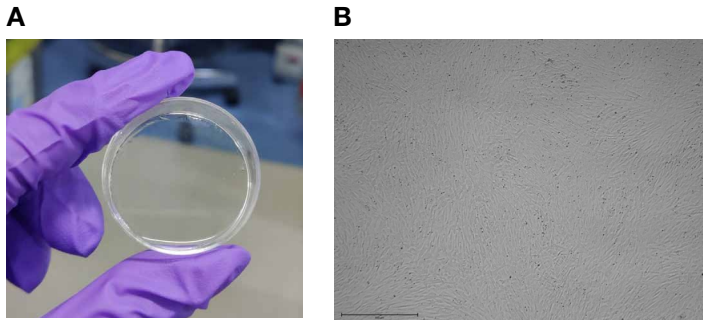

Figure 2. Growing the cells. (A) Confluent cell sheet of WJMSCs on 35 mm Nunc Dish with UpCell Surface. (B) Phase contrast image of confluent sheet.
1. Grow: Seed the cells on a Thermo Scientific™ Nunc™ Dish with UpCell™ Surface at a density where they are confluent in a desired time and incubate at 37°C in 5% CO₂ to produce an intact sheet. The incubation time and cell seeding number are dependent on the cell type. For this study, 0.1 × 10⁶ Wharton’s jelly-derived MSCs (WJMSCs) were grown for 6 days on a 35 mm Nunc Dish with UpCell Surface coated with 20 µg/mL vitronectin using serum-free medium (Figure 2).